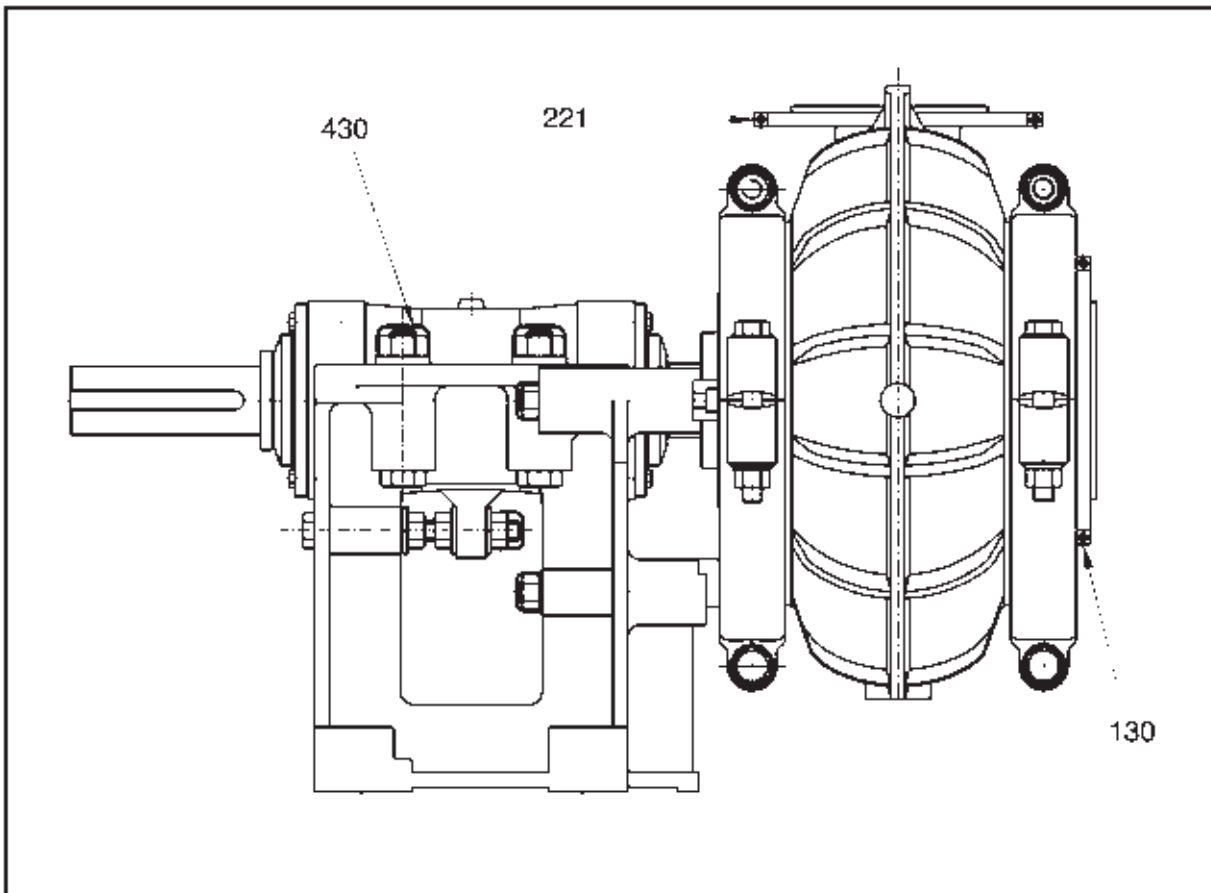

Fig. 10 Assembled pump
Refer fig 10
- (i) Fit elastomer **nut covers** (430) to all external nuts to prevent fouling of threads with slurry.
- (iii) The **intake joint ring** (060) and **discharge joint ring** (132) are supplied loose with pumps. Fit intake joint ring and discharge joint ring as shown in fig 10, using contact cement adhesive to provide support during fitting of intake and discharge pipework.